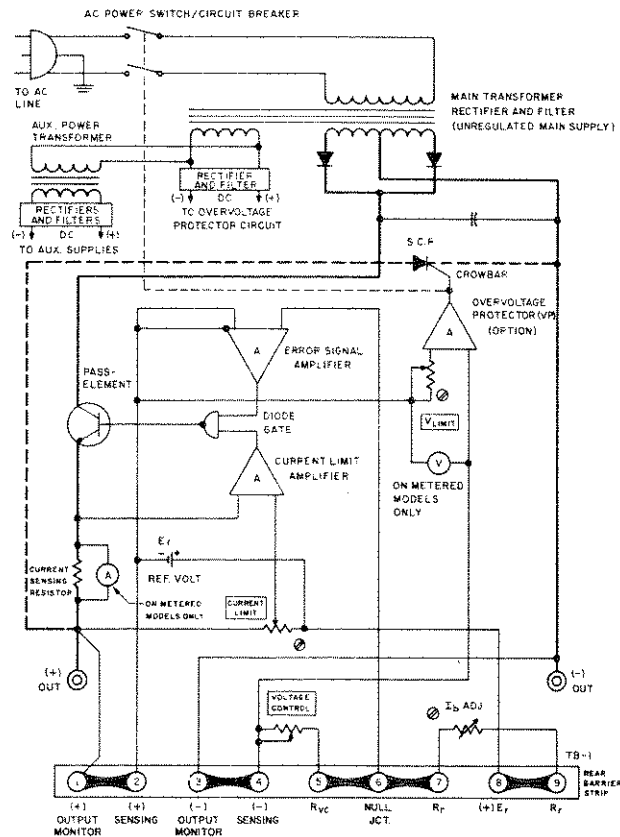

FIG. 4-1 SIMPLIFIED DIAGRAM, JQE HALF-RACK POWER SUPPLY
(References in CAPITAL LETTERS refer to the nomenclature used in FIG. 4-1)
### 4-1 SIMPLIFIED DIAGRAM DISCUSSION (Refer to FIG. 4-1)
- 1) Check rear barrier-strip jumper connection for correct placement and tight seat (Refer to FIG. 4-1).
- 3) Check reference voltage from terminal (2) to (8) on the rear barrier strip. Correct reference potential is 6.2V nominal.